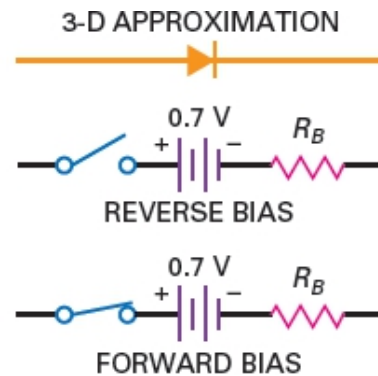

Figure-25 Equivalent circuit for third approximation
- The equivalent circuit for the third approximation is a switch in series with a barrier potential of 0.7 V and a resistance of R_B (see Figure-25). When the diode voltage is larger than 0.7 V, the diode conducts. During conduction, the total voltage across the diode is: